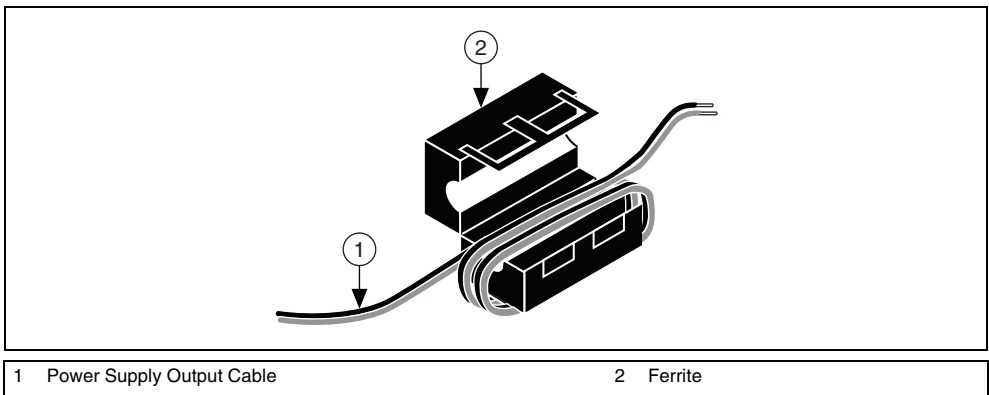

Figure 4. Installing a Ferrite Connector on the Camera Power Cable
- To suppress electromagnetic interference, install a ferrite on the camera power cable as close to the connection to the I/O Extension Board as possible. Wrap the camera power cable around the ferrite two times, as shown in Figures 4 and 5.